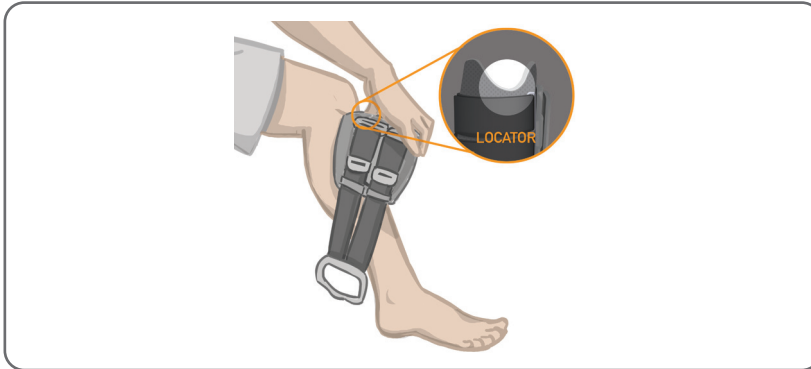

Figure 6-8: Positioning the Lower Leg Cuff on the Leg
2. Make sure the electrodes are securely attached. Then, grasp the front of the Lower Leg Cuff by the cradle and tilt the bottom of the Lower Leg Cuff up. Slide the cuff up your leg until it rests snugly and comfortably below your kneecap. See Figure 6-8.